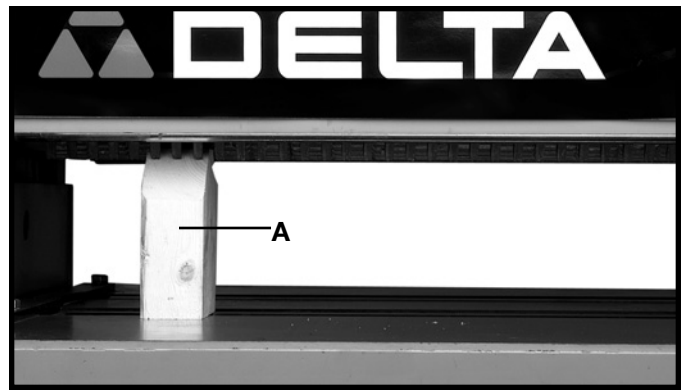

Fig. 49
3. Then check to see if the table is set parallel to the cutterhead by placing gage block (A) Fig. 49, directly under the cutterhead on the left hand side of the table as shown. Raise the table until gage block (A) Fig. 49, just touches the cutterhead.